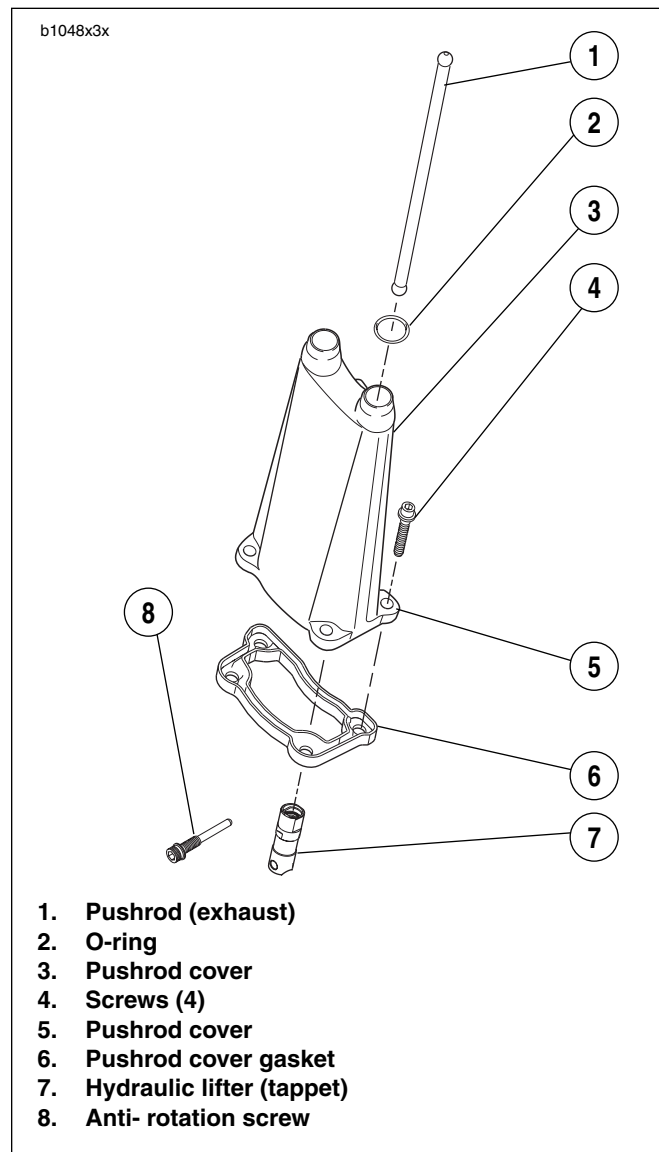

Figure 3-125. Valve Lifter Service
4. See Figure 3-125. Remove push rod covers.
3. See Figure 3-125. Insert lifter into bore in crankcase. Rotate lifter so that flats at upper end of lifter face the front and rear of the engine. If the lifter is installed incorrectly, anti-rotation screws cannot be inserted.
5. See Figure 3-125. Install push rod cover.